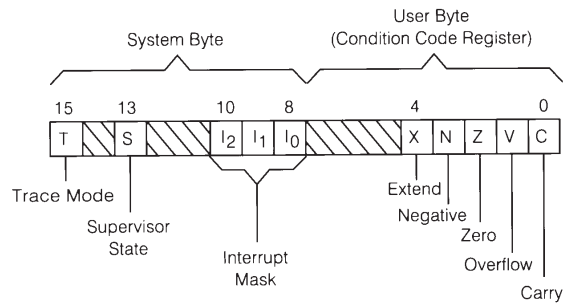

Figure 14 : Status register.
The status register (Figure 14) contains the interrupt mask (eight levels available) as well as the condition codes : extend (X), negative (N), zero (Z), overflow (V), and carry (C). Additional status bits indicate that the processor is in a trace (T) mode and in a supervisor (S) or user state.